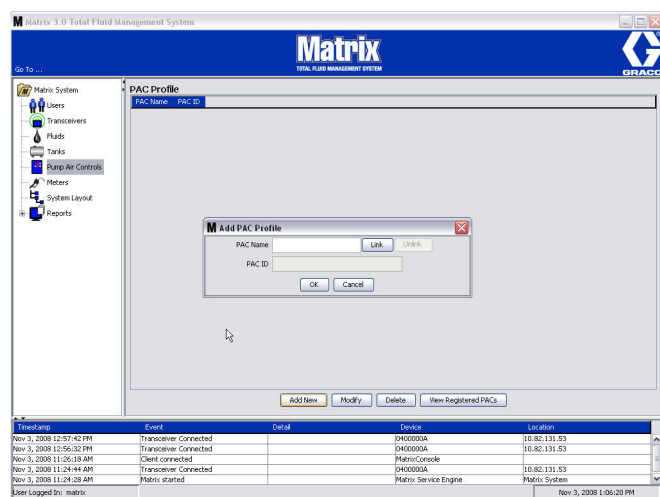

FIG. 80
3. The Add PAC Profile screen is shown in FIG. 80. On this screen you are prompted to name the PAC. After you type the name of the PAC in the field, click OK to close the screen and save the changes.